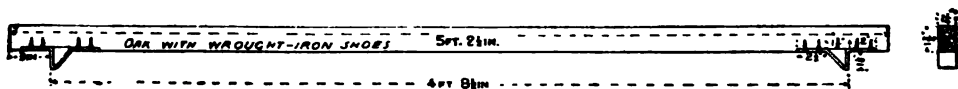

FIG. 17. TRACK GAUGE.
**Track Gauges.** Fig. 17—In order not to be affected by temperature, but more especially to prevent their being bent, track gauges should be made of wood in preference to iron, best of 1 1-2 in. X 2 in. well seasoned ash with cast iron lugs screwed on at proper distance for gauge.